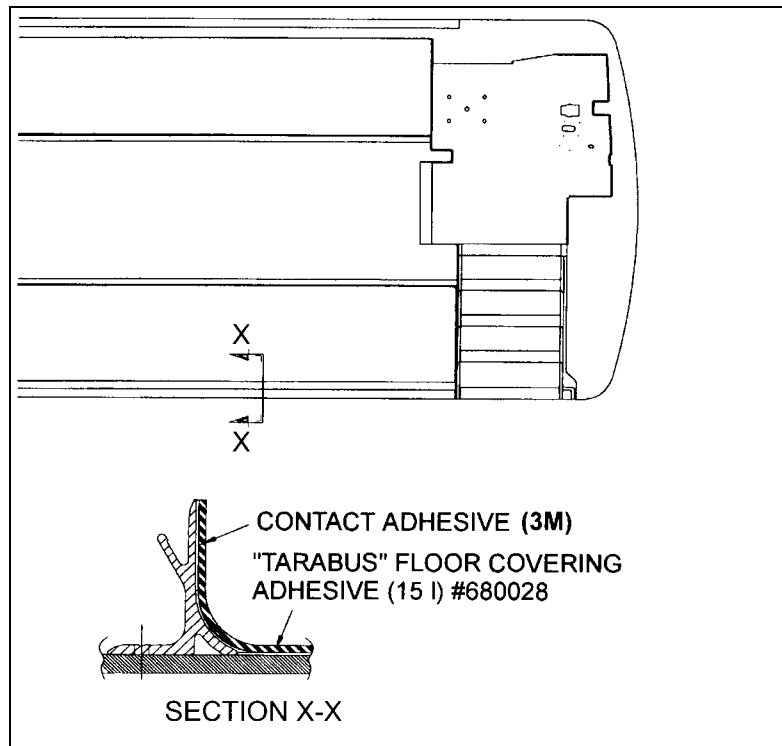

FIGURE 166: TARABUS FLOOR COVERING ADHESIVE APPLICATION 18640
6. Apply floor covering adhesive (680028) onto plywood using a serrated spreader with 1/8-inch serration. If required, apply contact adhesive (3M) (684655 or 684654) onto aluminum molding and also onto section of floor covering, which will be in contact with molding (refer to Figure 166).